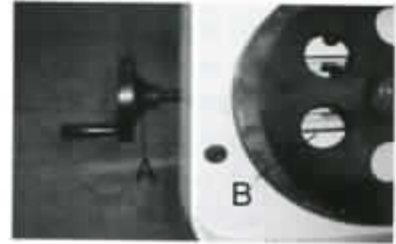

Fig.6
To tension the blade, lift up the left wheel cover and turn the blade tension handle (A) Fig.6, clockwise. A pointer and tension scale (B) is located underneath the wheel. The scale is graduated to indicate tension of 1400 and 2000. For carbon blades (similar to the one supplied with the machine) the blade should be tensioned at 1400. For bi-metal blades, the blade should be at 2000. Always release blade tension at the end of each work day to prolong blade life.